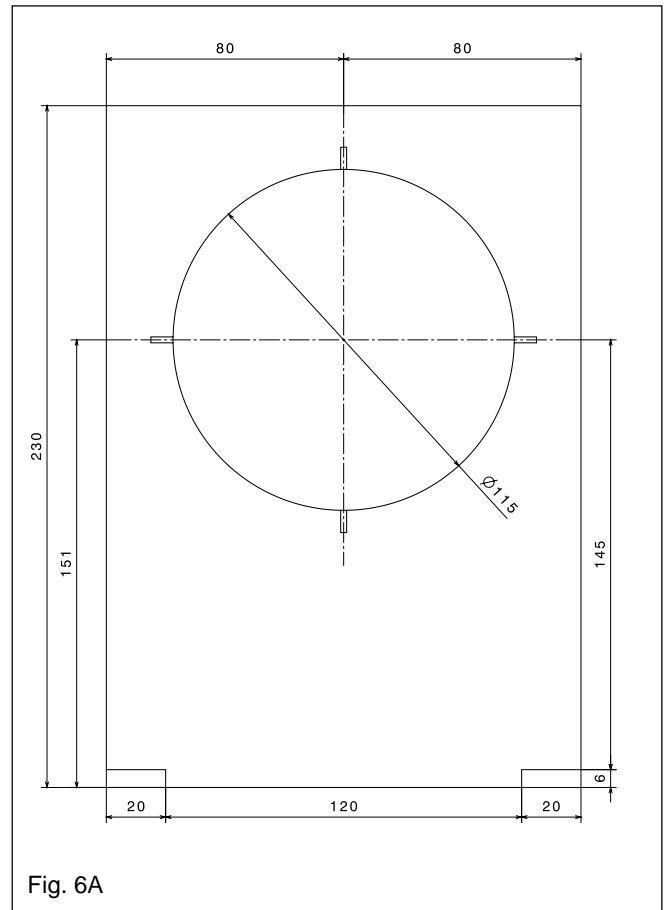

Fig. 6A
4.4 PREPARATION FOR MOUNTING THE APPLIANCE (see fig. 6A)
When the position of the appliance has been decided, carefully mark the position of the combined fixing jig and wall-mounting bracket (see fig. 6A), and – using the template supplied – mark the position of the flue-hole (if applicable).